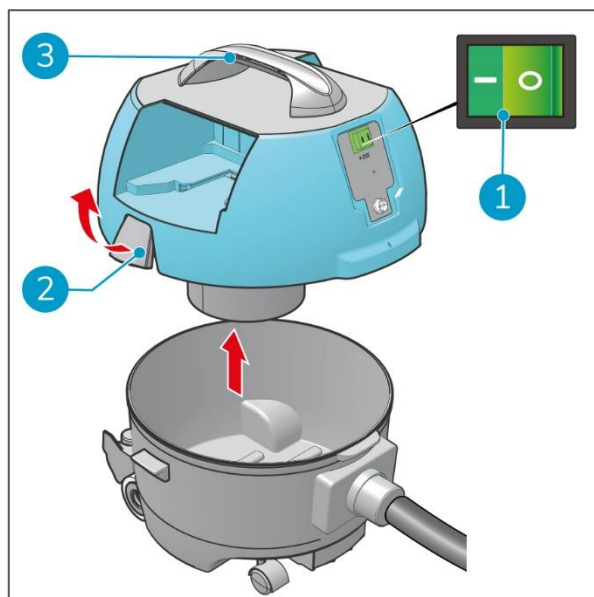

Figure 9
1. Turn off the i-vac 9B with the ON/OFF switch (Figure 9, pos 1).
3. Release the latches (Figure 9, pos 2) that are placed on both sides of the i-vac 9B®.
4. Lift the head by the handle (Figure 9, pos 3).